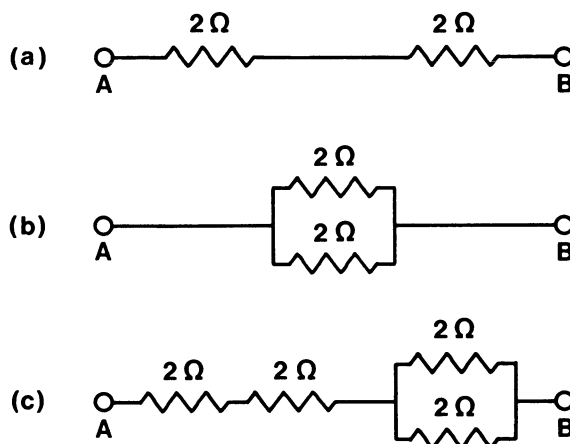

FIG. 3.13
9. Calculate the effective resistance between the points A and B in the diagrams shown in Fig. 3.13.